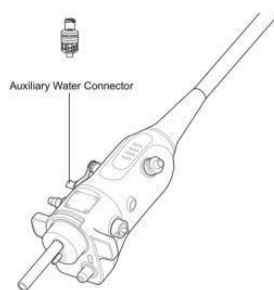
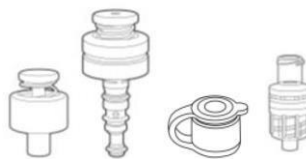

Figure 2
Figure 4
16. If using the 4-piece Valve Kit (Figure 4), attach the auxiliary water jet connector to the auxiliary water port by screwing it onto the port (See Figure 2). When attaching the auxiliary water jet connector to the port, take care to ensure that the auxiliary water jet connector is aligned to the port and avoid excessive tightening. Misalignment or excessive tightening of the auxiliary water jet connector could lead to the possibility of leakage.